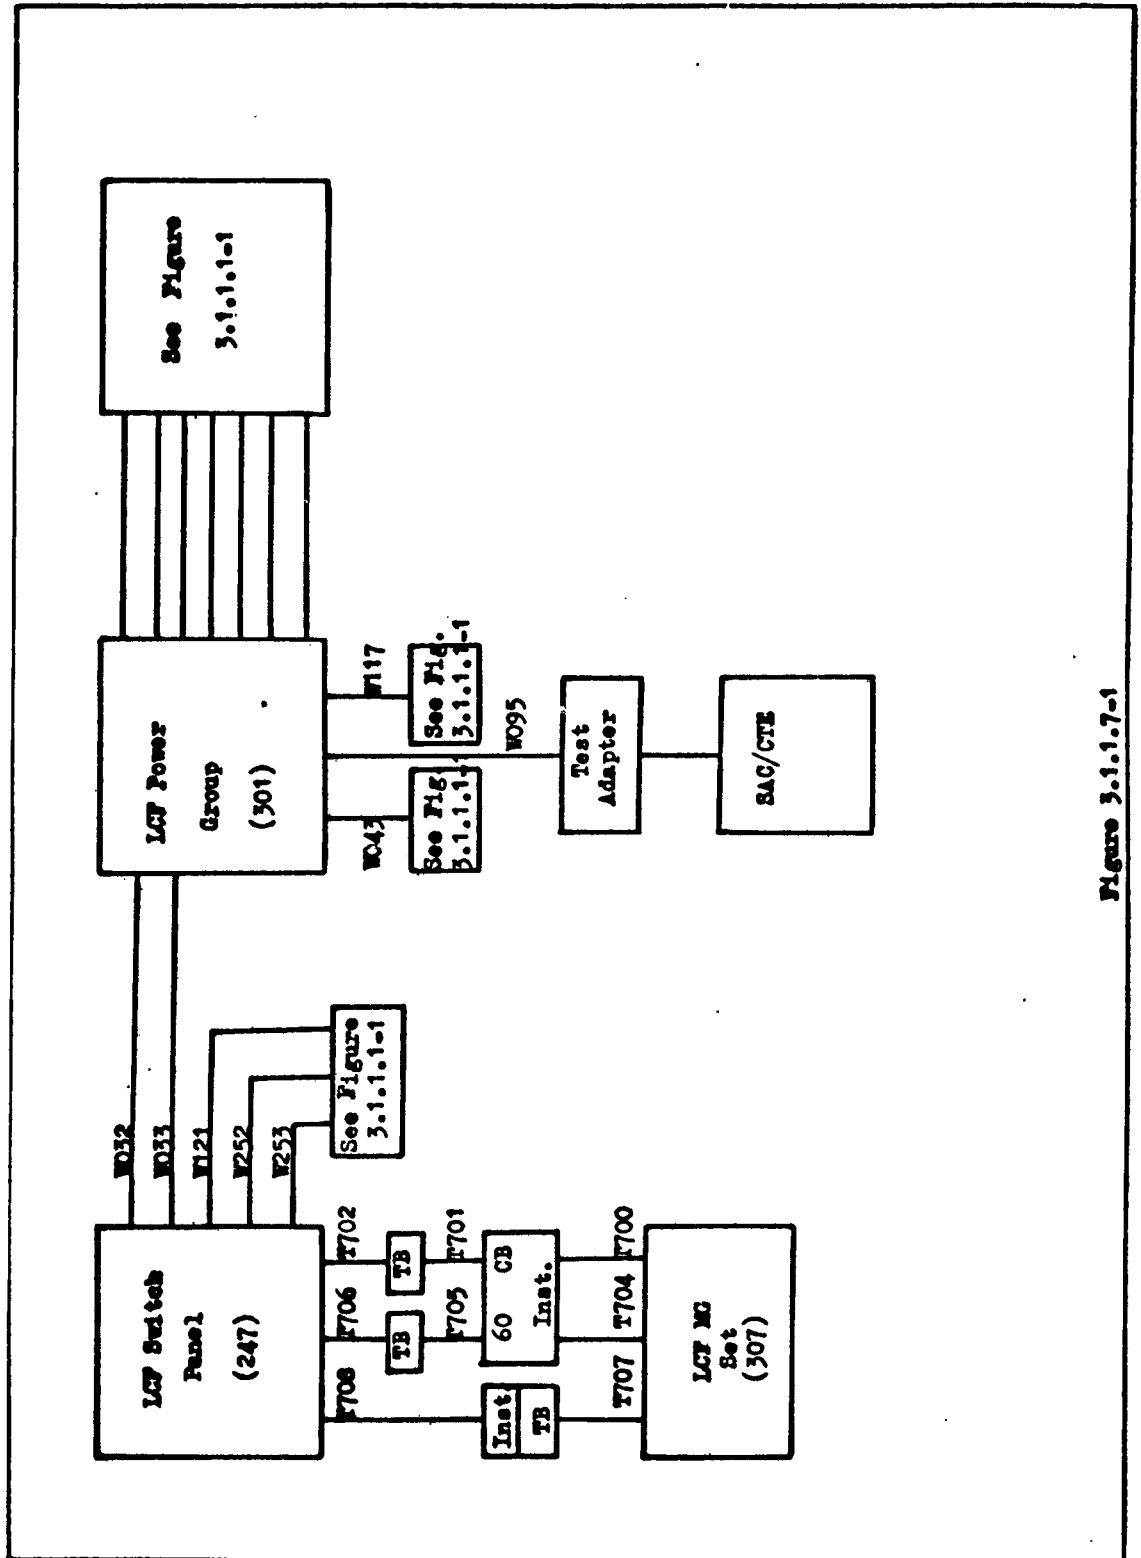

Figure 3.1.1.7-1
3.1 Connect the equipment per Figure 3.1.1.8-1.